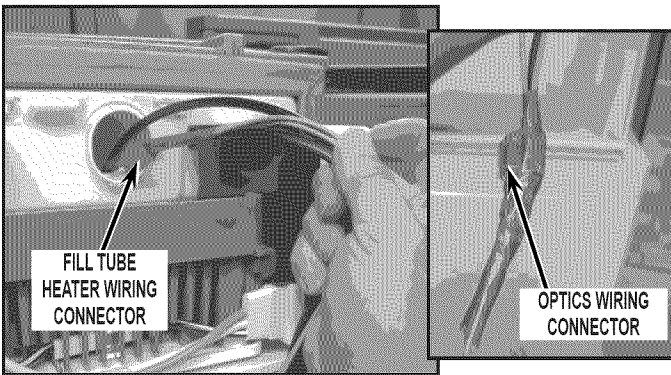

FIGURE 12
- Attach the wire harness connectors to the correct piece of flexible wire or heavy string after removing the original part. Start by attaching the optics wiring harness and connector to the end of the flexible wire or heavy string, then tape the fill tube heater wiring harness and connector separately. See *Figure 12*.